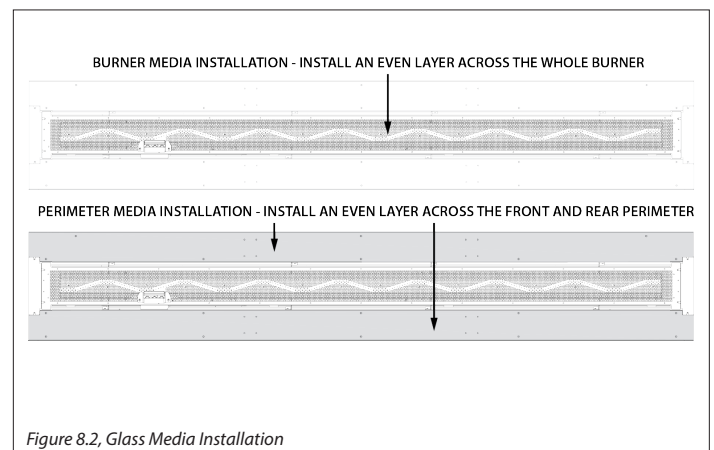

Figure 8.2, Glass Media Installation
1. Install an even layer of your chosen media across the whole burner. See Figure 8.2.
1. Install an even layer of media across the front and rear perimeter. See Figure 8.2.